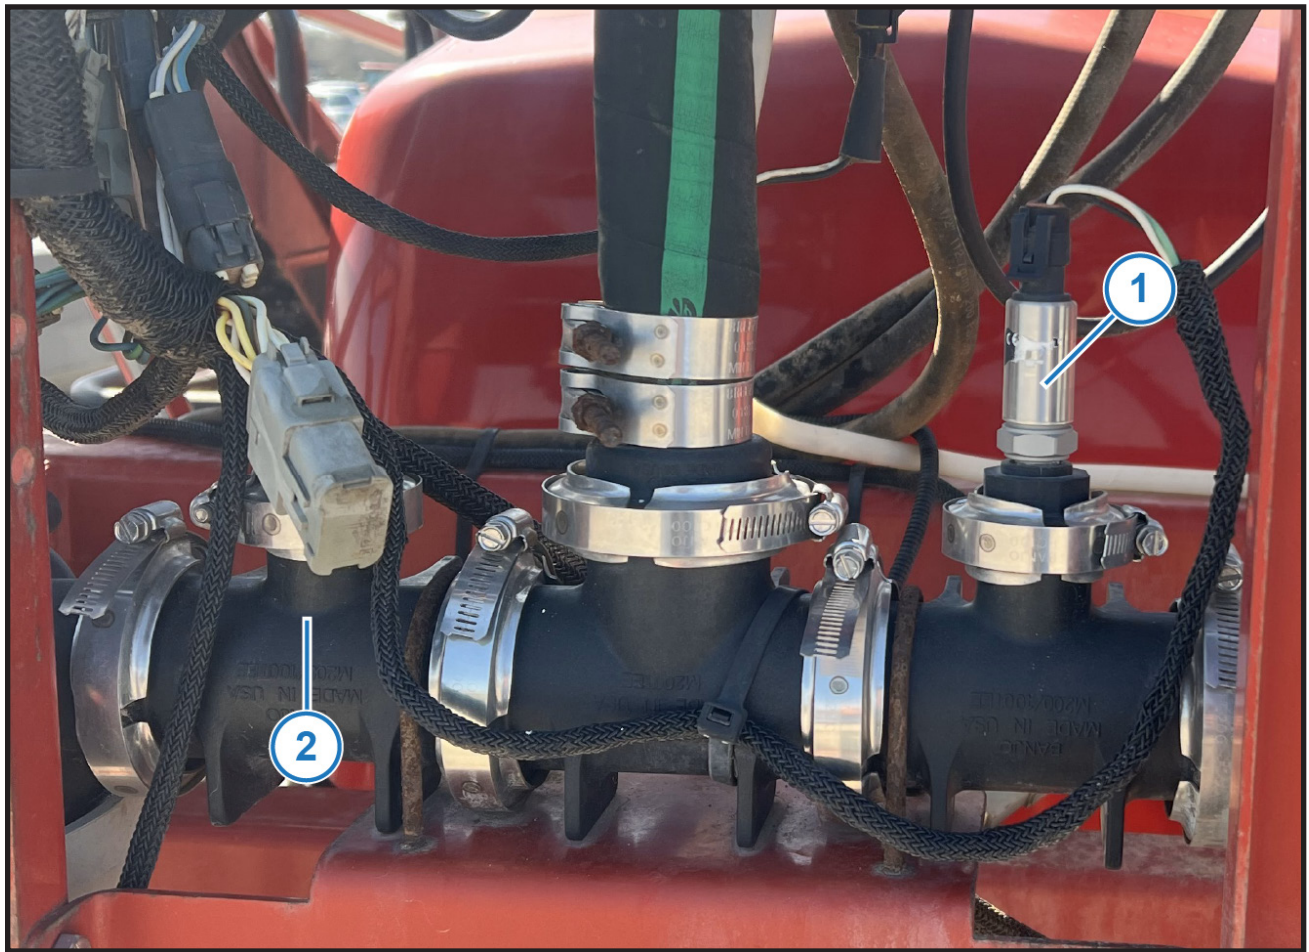

Figure 10: Pressure Sensor
17. Locate the existing pressure sensor on the right side of the back rack (Figure 10, Item 1) and remove.
On machines equipped with an Aim Command system, there will be a Capstan pressure sensor on the left side (Figure 10, Item 2) with a 3-pin weatherpack connector. Remove and replace this sensor with the PinPoint III pressure sensor, if equipped.